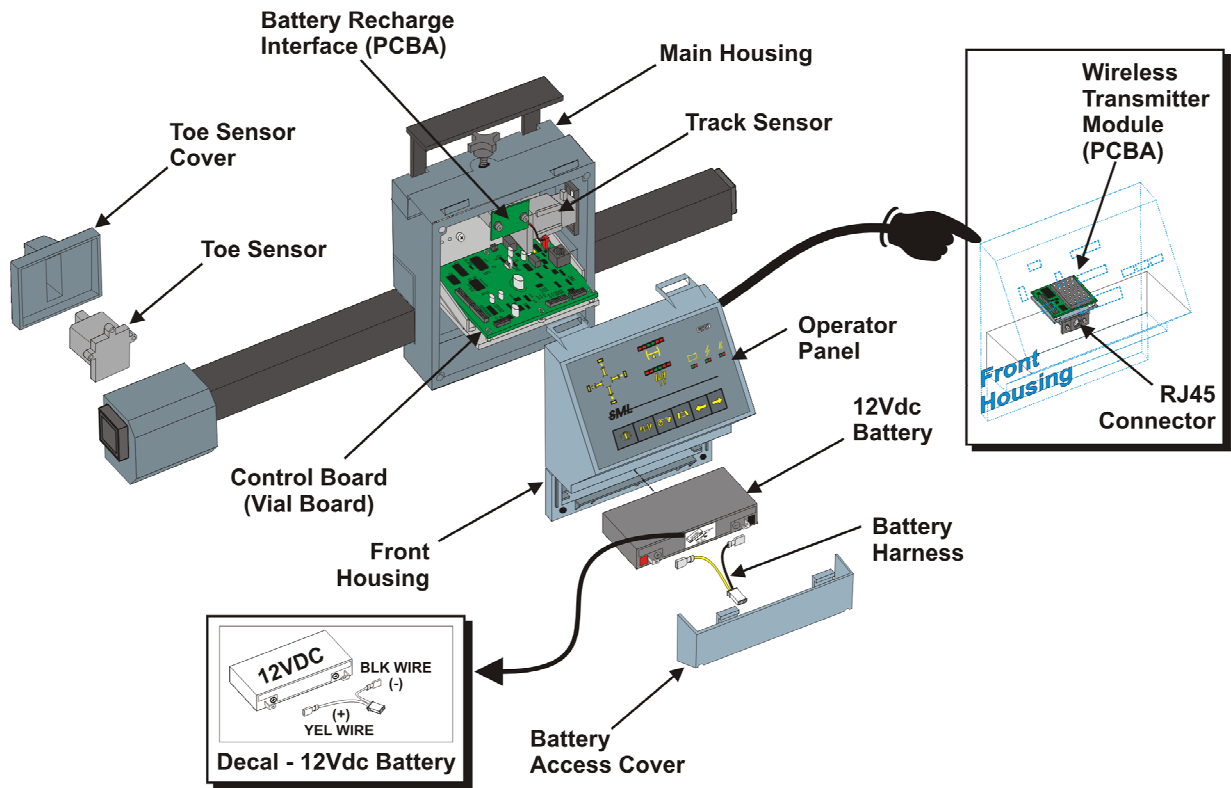

Figure 2-5. Wheel Unit – Typical Components
- 2.7.1.1 A typical wheel unit includes an operator panel, control board (PCBA), one or two sensor unit(s), a battery charge interface module, a power transistor, a wireless transmitter module, a 12 Vdc battery, a built in speaker, mounting hardware and wiring/cablings. Refer To Figure 2-5.